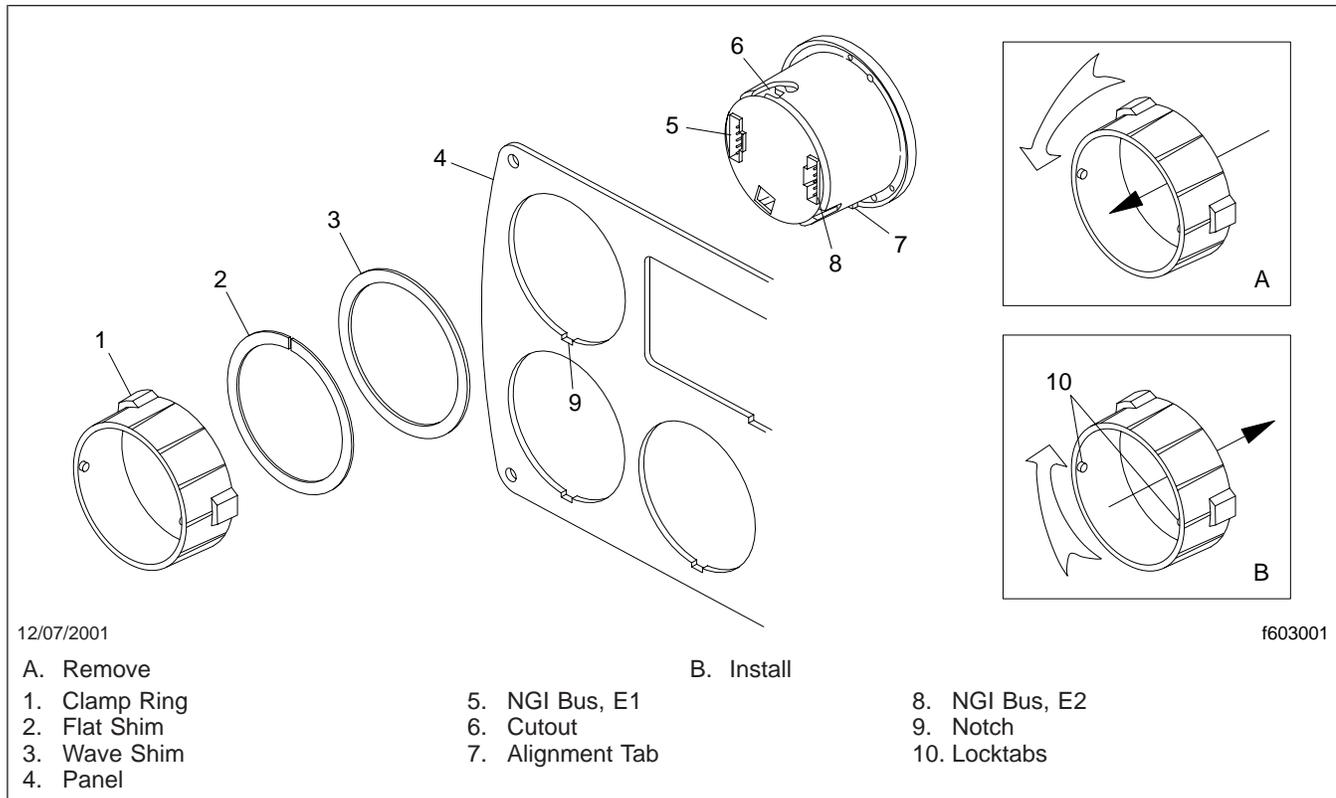

Fig. 2, 2-Inch Gauge Mounting
4. Depress the locking tabs and disconnect the electrical connectors from the rear of the 2-inch gauge. See **Fig. 2**.